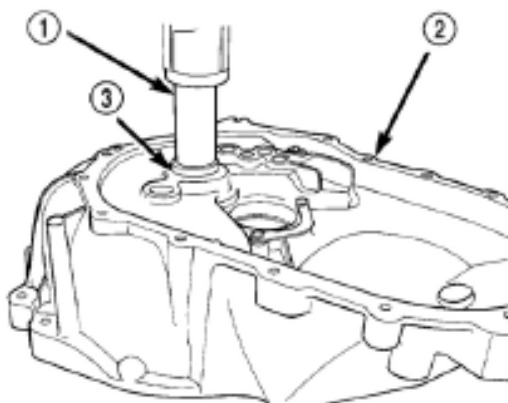

Figure 3-119 Disassembly of input bearing
- (1) Cover tool 6342 on the input bearing beside the transaxle clutch casing gear box.
- (2) Press the input bearing out of the casing (Figure 3-119).